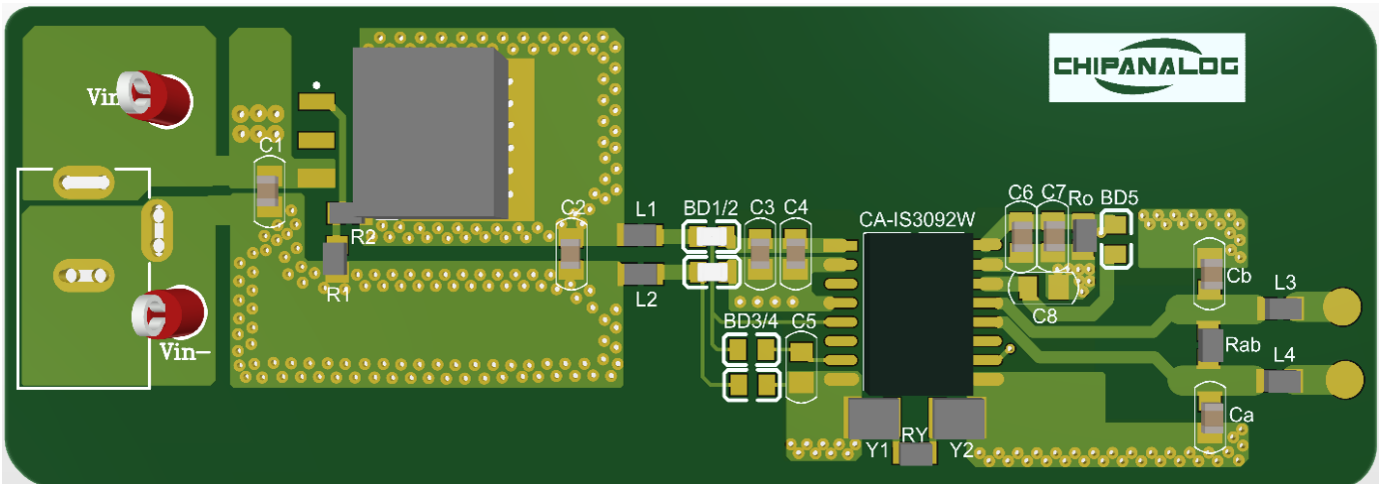

Figure 3-1. CA-IS309XW reference design board(2-layer)
- 2) Place decoupling capacitors as close as possible to the device pins, maximum distance is less than 2mm, see Figure 3-1, C3/C4 and C6/C7.